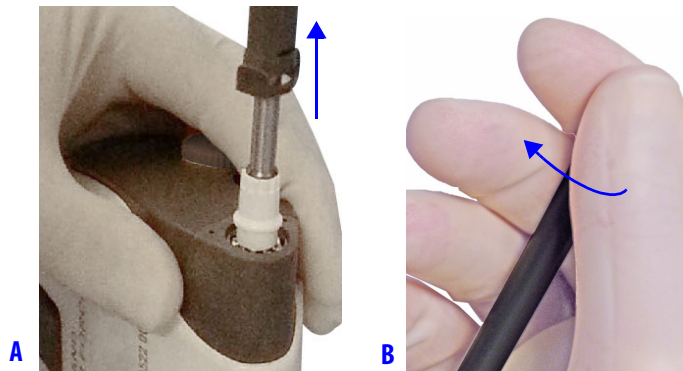

Figure 3.10 Slide sheath toward distal end of instrument shaft (A) and pinch and gently twist the sheath tip (B)
2. Hold the sheath and slide up towards the distal end of the instrument shaft until the sheath is fully removed (Figure 3.10 A).
If needed, pinch the distal tip and gently twist and push to remove it from the instrument shaft (Figure 3.10 B). Sterile gauze may be used to more firmly grasp the sheath while twisting.